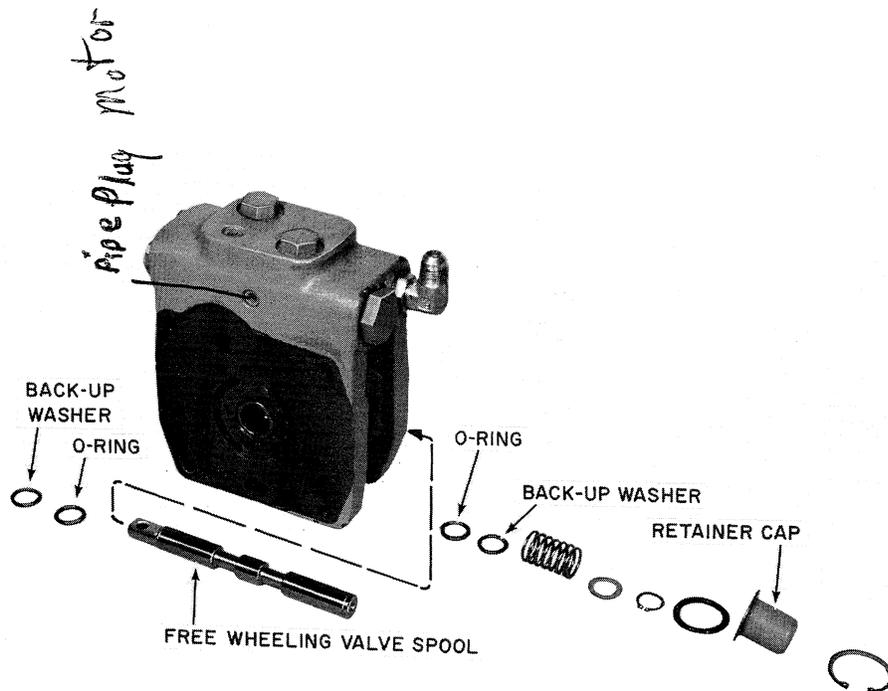

FIGURE 14
4. To remove the free-wheeling valve, remove the snap ring on the retainer cap, then lift off the cap and O-ring. Remove the small snap ring washer and spring from the spool. The spool can now be removed from either end. See Figure 14.